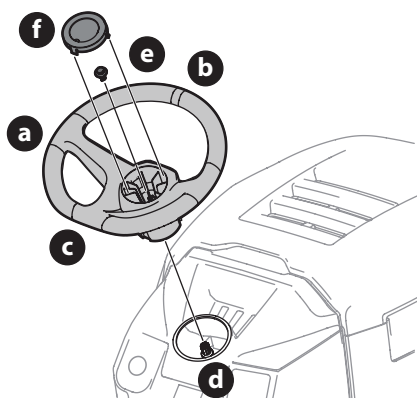

Figure 8
1. With the wheels of the tractor pointing straight forward, align the steering wheel (a) by using the center-line (b) on the front of the steering wheel (a) pointing straight ahead and the flat section (c) of the steering wheel (a) facing toward the seat, place the steering wheel (a) over the steering shaft (d) (Figure 8).
2. Secure the steering wheel (a) with the hex bolt (e) from under the steering wheel cap (f) and torque to 18-22 ft-lbs (24-30 N-m) (Figure 8).
3. Place the steering wheel cap (f) over the center of the steering wheel (a) and push downward until it "clicks" into place (Figure 8).
NOTE: The hex bolt (e) securing the steering wheel (a) has thread locker applied to it, so if it is removed, it is recommended that the hex bolt (e) be replaced or thread lock re-applied (Figure 8).